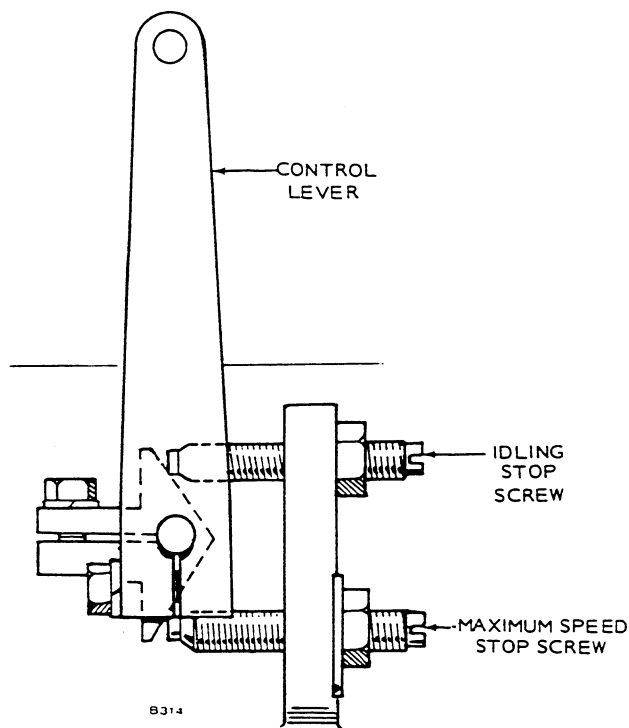

FIGURE 23. GOVERNOR SPEED ADJUSTMENT
1. Loosen lock nuts on idle stop screw and maximum speed stop screw. Refer to Figure 23.